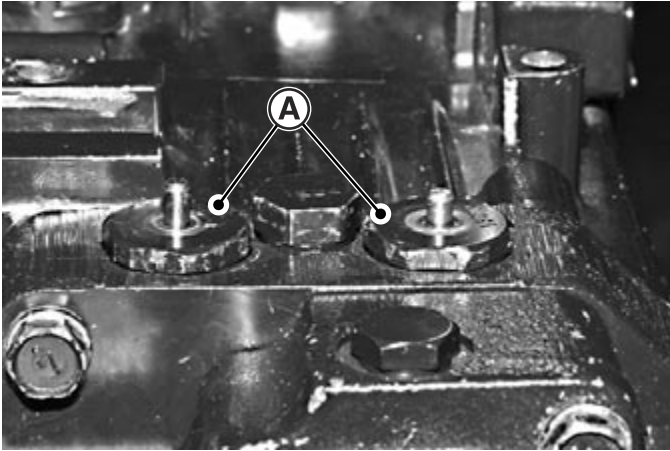

Fig. 4, Control Valves
1. Remove directional control valves (A). (Fig. 4)